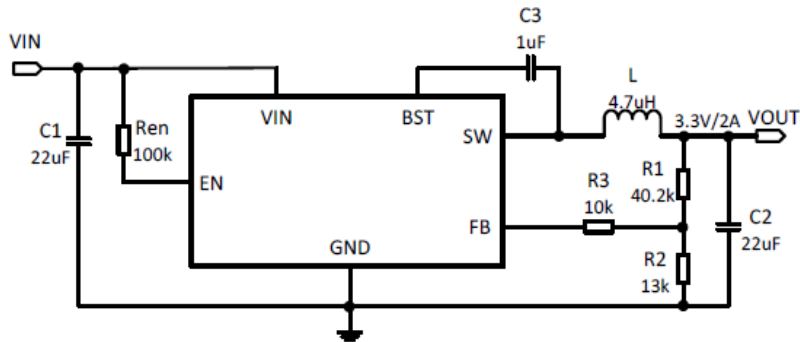

Figure 1.
2. The resistance R3 in Figure 1 makes the loop more stable. If it isn't used, the resistance R1 \ R2 should be adjusted(See Figure2.). The value of R1 is recommended to be about 300kΩ.